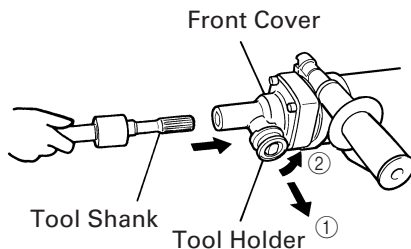

Fig. 3
- (1) Clean, then smear the tool shank with the grease provided in the green tube.
- (2) Pull the tool holder in the direction of arrow ① and rotate it in the direction of arrow ② (counterclockwise). Fully insert the tool shank into the hexagonal hole of the front cover. (Fig. 3)
- (3) Return the tool holder to fix the tool.
- (4) Pull the tool to make sure it is locked completely.